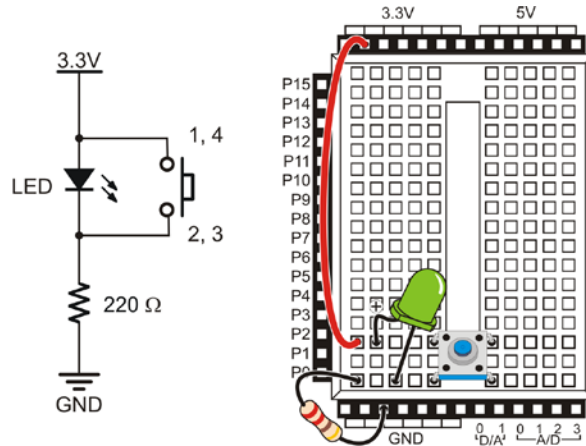

Figure 3-6
Figure 3-6 shows a different pushbutton and LED circuit. In this case, when the pushbutton is not pressed, the LED stays on; when the button is pressed, the LED turns off. When the pushbutton is not pressed, current flows through the LED and it emits light. But when the pushbutton is pressed, conductive metal connects terminals 1,4 and 2,3, and electricity will take the *path of least resistance* through the pushbutton instead of through the LED.
- Build the circuit shown in Figure 3-6.